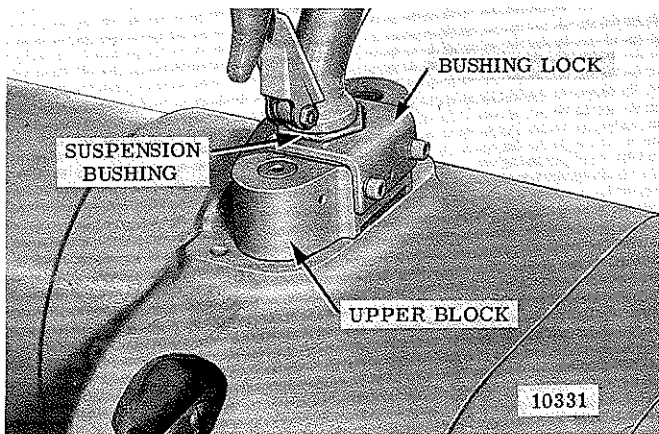

Figure 7-22. View of Upper Hook Assembled To Hoist Frame (2 Ton Models)
(2) On 2 ton models, unscrew two hex socket head screws holding suspension bushing lock assembly to upper block (fig. 7-22) and remove lock. Unscrew suspension bushing from block to remove hook. To disassemble block from frame remove drive pin from nut inside frame and unscrew nut from stud holding body to frame. Remove drive pin securing threaded end of chain anchor in block and unscrew anchor. Block can then be lifted off.